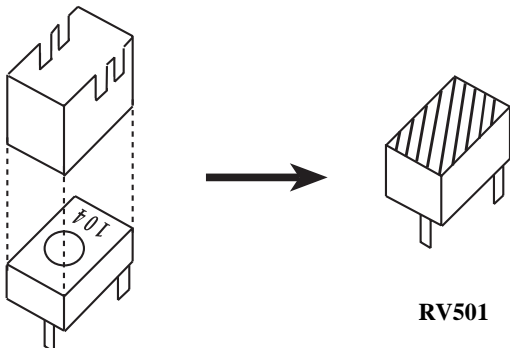

Figure 1
- 8) After adjusting the High Voltage within specification, put the RV cover on RV501 as shown in Figure 1 and apply sufficient amount of RTV around RV501.